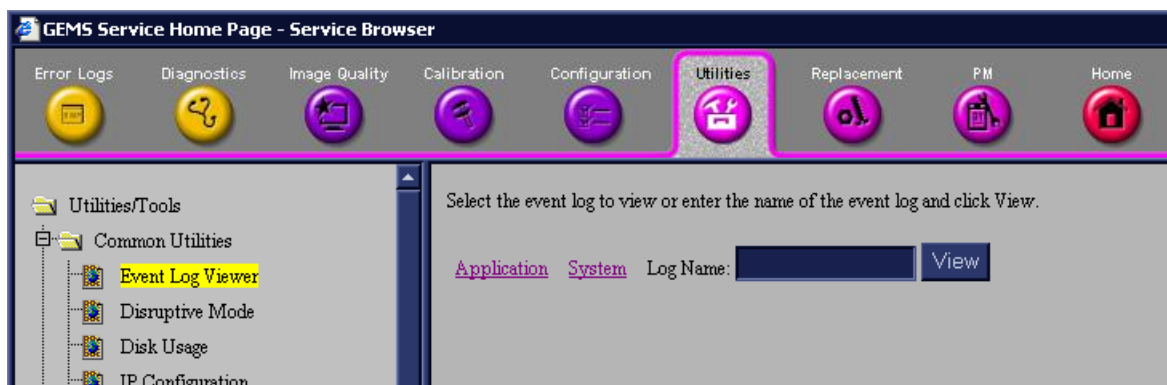

Figure 7-121 Event Log Viewer
- **Event Log Viewer** - see Figure 7-121.